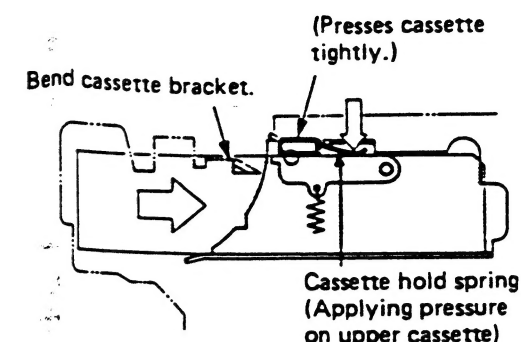

Fig. 3-1-4
3. The cassette loaded in the cassette holder is, first, held in a place by two cassette hold springs (strip) provided on left and right sides of the holder reinforcement plates, thus preventing the cassette from its positional deviation at the starting period. Motion of the cassette holder unlatches both left and right cassette levers from their hooks provided on the guide bracket and allows the cassette to rotate in the direction being pressed, thus holding the cassette more tightly and preventing positional deviation of the cassette due to the cassette lid opener. (Fig. 3-1-4)